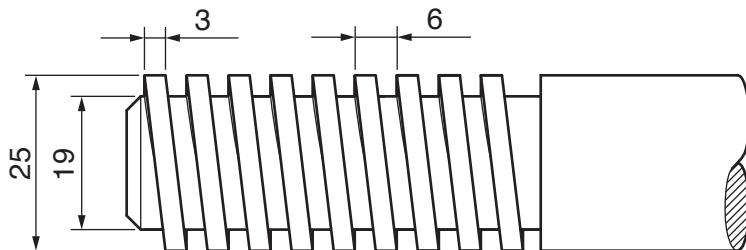

Fig. 3
- 6 Fig. 3 shows a piece of rod with a square thread cut into it.